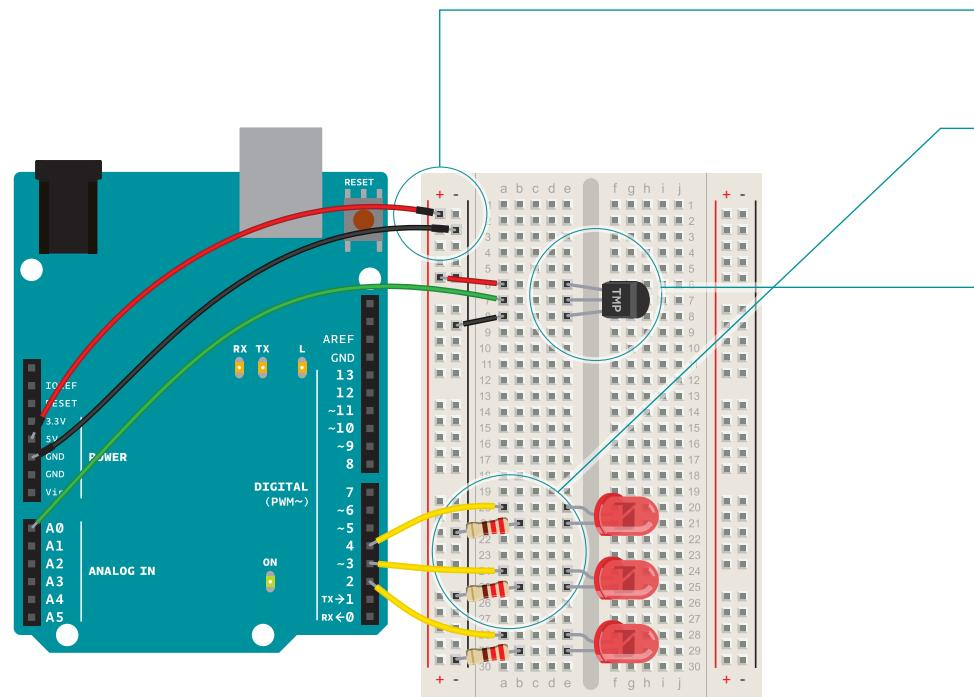

Fig. 2
- 3 Place the TMP36 on the breadboard with the rounded part facing away from the Arduino (the order of the pins is important!) as shown in Fig. 2. Connect the left pin of the flat facing side to power, and the right pin to ground. Connect the center pin to pin AO on your Arduino. This is analog input pin 0.